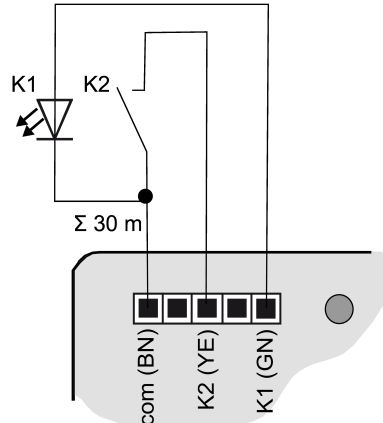
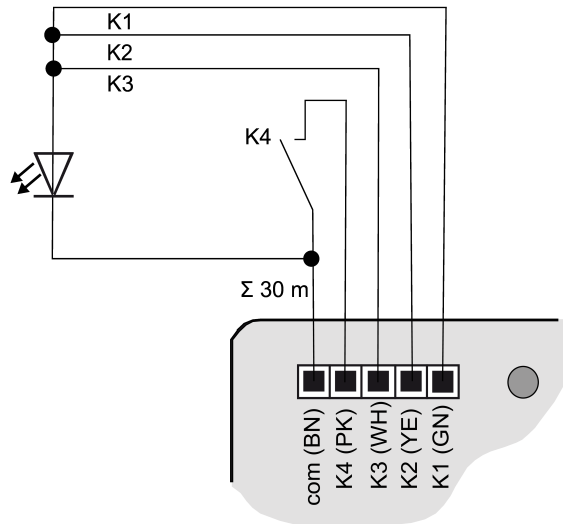

Figure 3: Connection example: push-button interface 2-gang
Figure 7: Connection example with outputs switched in parallel
- Connect push-buttons, switches, contacts, LED or NTC to enclosed connecting cables (4) according to the connection examples; (see figure 3) to (see figure 7). The connection examples show the use with inputs and outputs.
- i** To increase the output current, outputs can also be switched parallel to each other with the same parameterization; in the example here, (see figure 7) K1-K3 are switched in parallel.